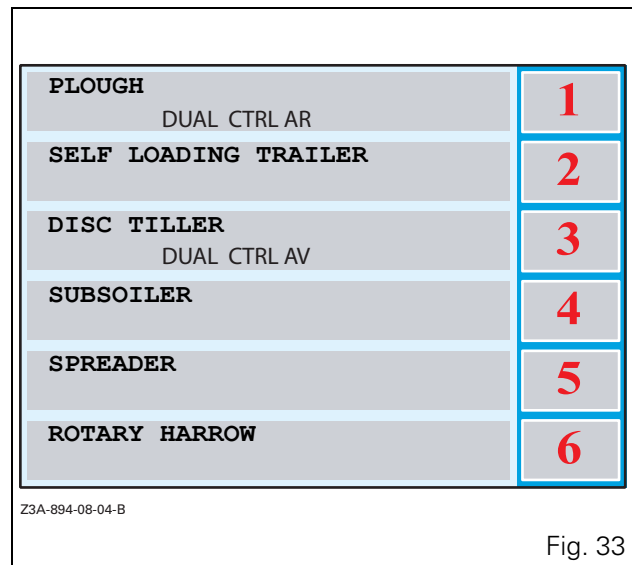
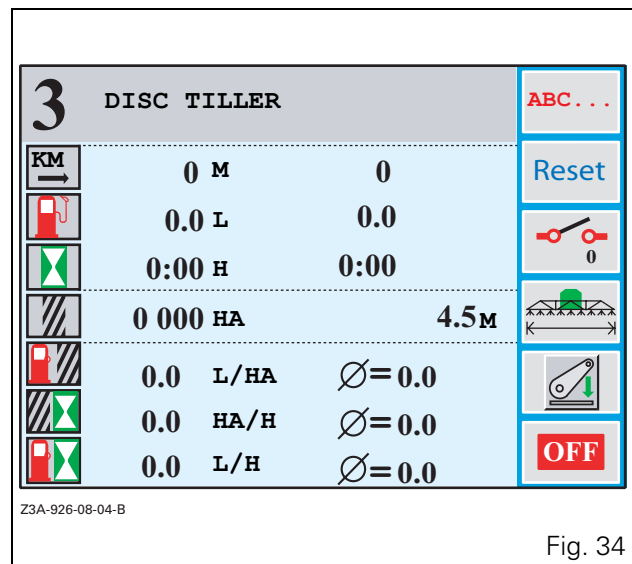

Fig. 33
Fig. 34
- When the window (Fig. 33) is open, select a memory by pressing the corresponding key. Example: the DISC TILLER memory by pressing the key <3>. This implement window (Fig. 34) is displayed.